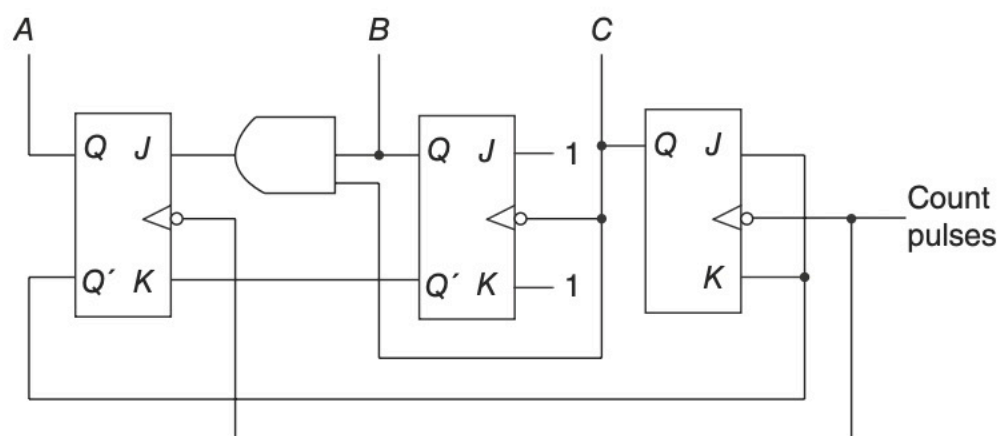

Figure P7-18 Ripple counter
- 7-16. The ripple counter shown in Fig. P7-18 uses flip-flops that trigger on the negative-edge transition of the *CP* input. Determine the count sequence of the counter. Is the counter self-starting?